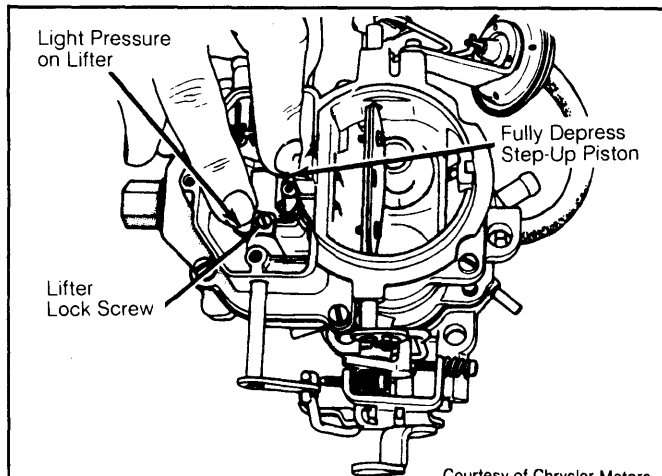

Fig. 4: Vacuum Step-Up Piston Adjustment
2) Loosen lifter lock screw. See Fig. 4. Fully depress piston in bore. At same time, hold pressure against rod lifter tab. Tighten lifter lock screw.